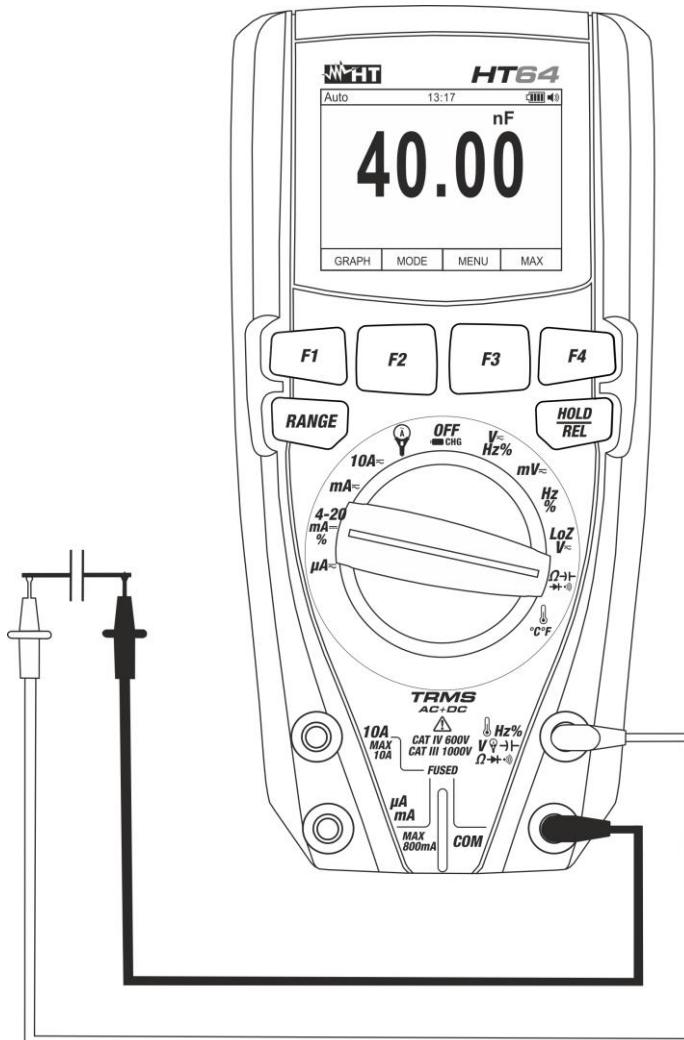

Fig. 28: Use of the instrument for Capacitance measurement
5. Position the leads at the ends of the capacitor to be tested, respecting, if necessary, the positive (red cable) and negative (black cable) polarity (see Fig. 28). The display shows the value. **Depending on the capacitance, the instrument can take about 20s before displaying the correct final value.** The bargraph is not active in this function.